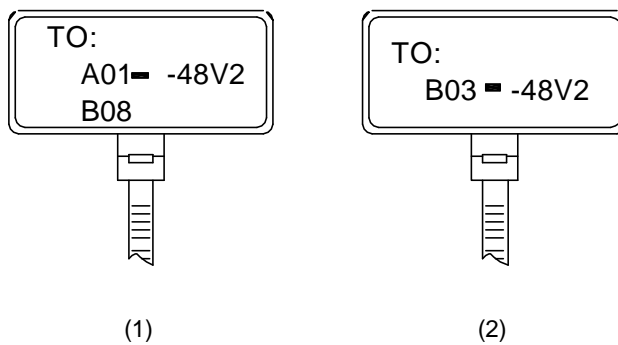

Figure E-15 Example of the labels on the DC power cable
Make sure that labels are affixed in correction direction. That is, after the cable ties are bundled onto the cable, the identification plates with the labels should face up, and the text on the labels in the same cabinet should be in the same direction, as shown in Figure E-15.
In Figure E-15, (1) indicates the label on the loaded cabinet side, which carries the information about the position of the cable on the power distribution box. (2) indicates the label on the distribution box side, which carries the information about the position of the cable on the loaded cabinet side.